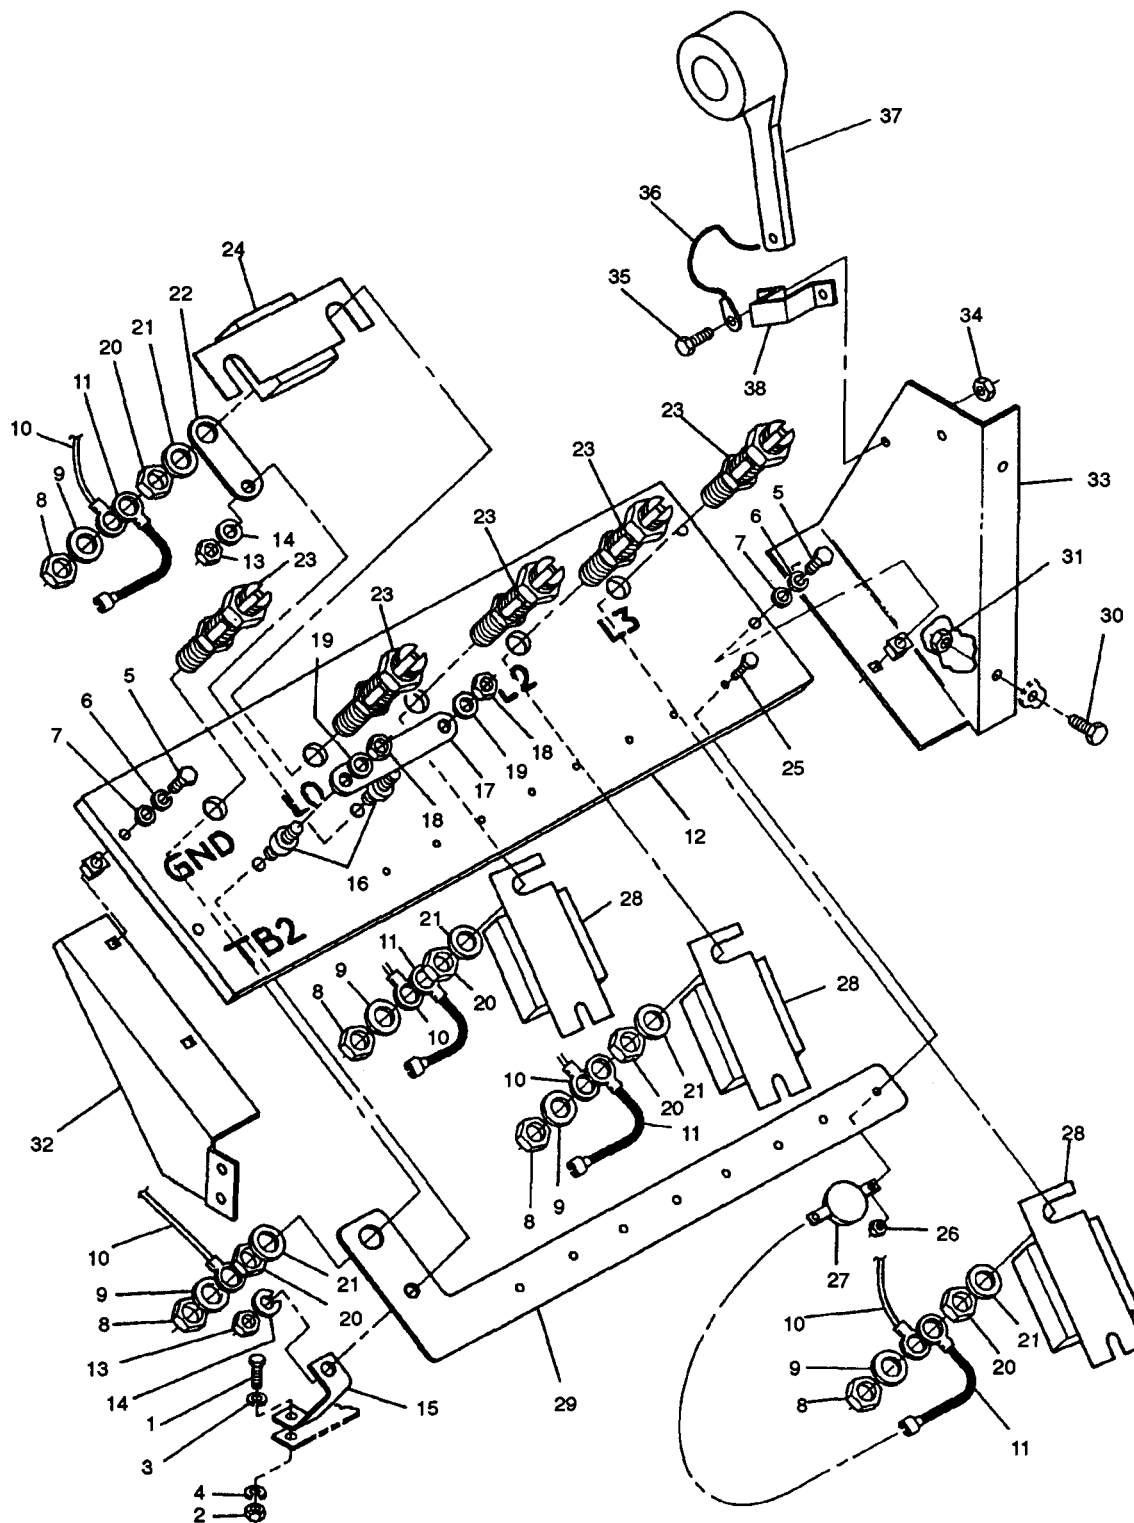

FIGURE 2-29. Load Terminal Board Assembly
- e. Remove bolt (1, FIGURE 2-29), nut (2), flatwasher (3), and lockwasher (4) securing ground strap (15) to skid base.
- f. Remove bolts (5), lockwashers (6), and washers (7) securing terminal board assembly (12) to supports.
- g. Remove nuts (8) and washers (9), tag and disconnect all main power leads (10) and varistor leads (11) from load terminals (23).
- h. Remove terminal board assembly (12) from generator set.
- j. Remove EMI filter (24) positioned between LO and GND terminals (23).
- k. Remove varistor leads (11) from varistors (27).
- m. Remove EMI filters (28) positioned between load terminals (23) and varistors (27).
- n. Remove nuts (13), washers (14), ground strap (15), studs (16), bus bars (17) and (22), and ground plane bar (29) from terminal board (12).
- o. Remove nuts (18) and washers (19) from studs (16).
- a. Install load output terminal board supports (32 and 33, FIGURE 2-29) in generator set with bolts (30) and nuts (31).
- b. Install ground plane bar (29), bus bars (17) and (22), and ground strap (15) on terminal board (12) with studs (16), washers (14) and (19), and nuts (13) and (18).
- c. Position EMI filters (28) between varistors (27) and L1, L2, and L3 load terminals (23) mounting holes.
- e. Position EMI filter (24) between LO and GND terminals (23) mounting holes.
- g. Connect leads (11) to varistors (27).
- h. Position load output terminal board assembly in generator set, and connect varistor leads (11) and main power leads (10) to load terminals (23) with washers (9) and nuts (8). Remove tags.
- i. Secure terminal board assembly to supports with washers (7), lockwashers (6), and bolts (5).
- j. Apply a thin coat of antiseize compound (Item 6, Appendix C) to skid at ground strap (15) attaching point.
- k. Install bolt (1), flatwasher (3), lockwasher (4), and nut (2) securing ground strap (15) to skid base.
- e. Remove nuts (20, FIGURE 2-29), copper washers (21), and load terminals (23) from terminal board assembly (12).
- a. Install load output terminals (23, FIGURE 2-29) on load output terminal board assembly (12) with copper washers (21) and nuts (20).
- c. Tag and disconnect varistor leads, (11, FIGURE 2-29) from varistors (27).
- d. Remove nuts (26), bolts (25), and varistors (27) from load terminal board assembly (12).
- a. Install varistors (27, FIGURE 2-29), on load output terminal board assembly (12) with bolts (25) and nuts (26).
- b. Connect varistor leads (11) to varistors (27) and remove tags.